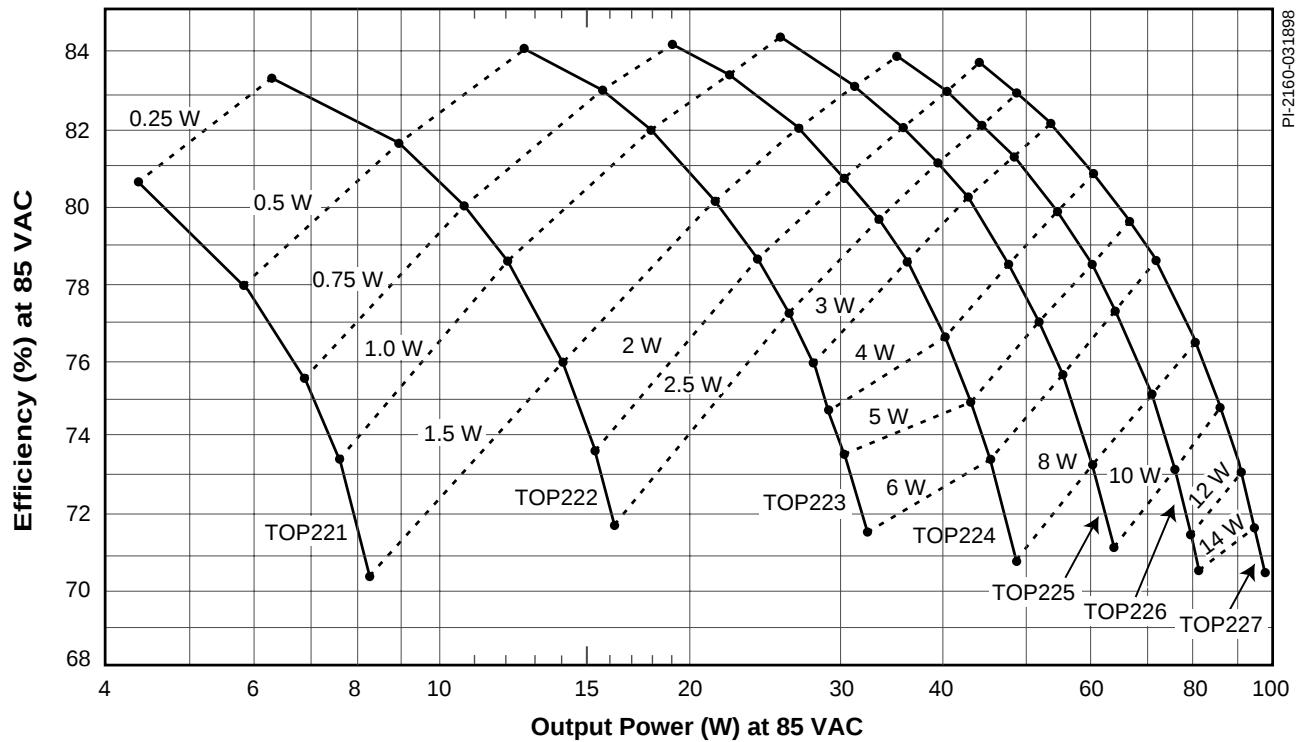
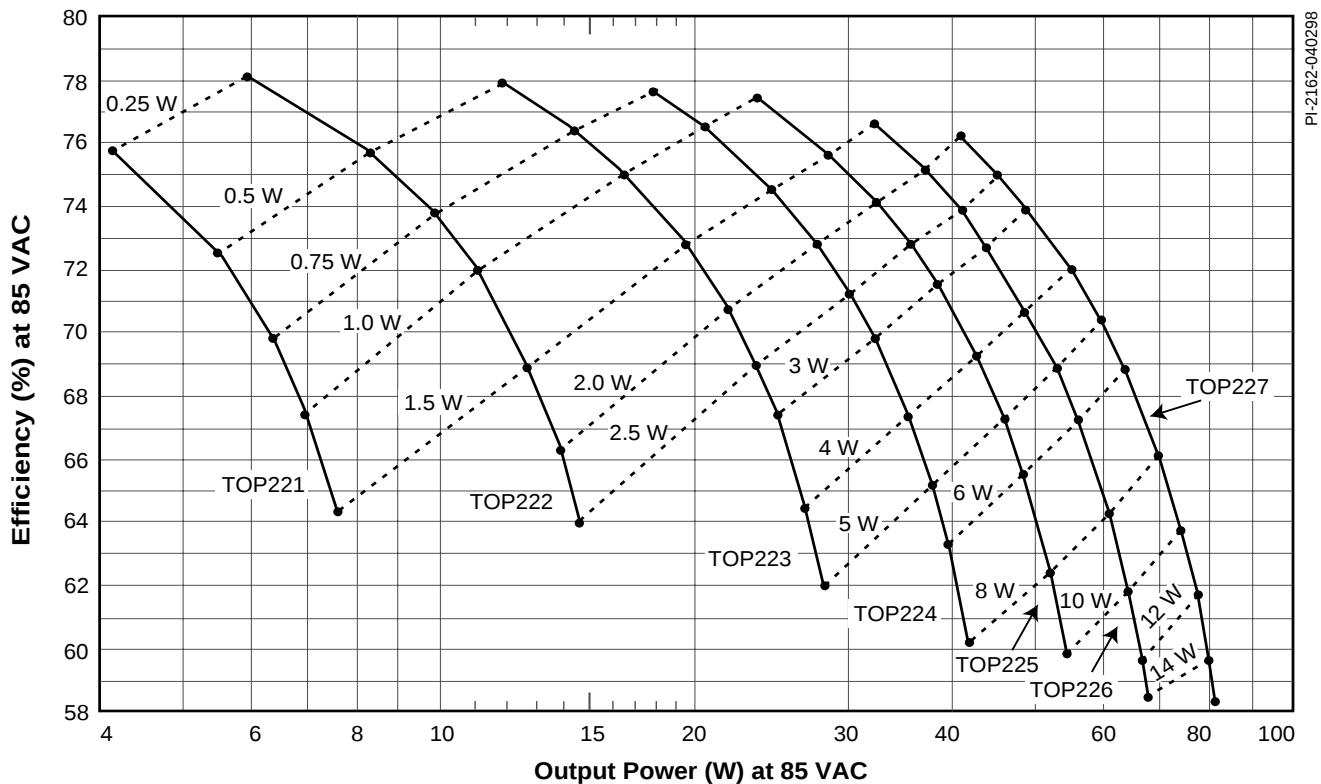

Figure 2. Typical Efficiency vs Output Power with Contours of Constant TOPSwitch-II Power Loss for Universal Input and 12 V Output.
Figure 3. Typical Efficiency vs Output Power with Contours of Constant TOPSwitch-II Power Loss for Universal Input and 5 V Output.
The *TOPSwitch-II* Flyback Quick Selection Curves consider these dissipation terms (and others as well) to provide a good estimate of expected efficiency for both Universal input and 230 VAC mains applications. Figure 2 (for +12 V outputs) and Figure 3 (for +5 V outputs) show a set of curves for efficiency and *TOPSwitch-II* power dissipation versus output power for the entire family of TOP221-TOP227 devices. These curves assume operation from a low line AC input voltage of 85 VAC, which is a suitable value for all Universal input applications.
- 1) Determine which graph (Fig. 2, 3, 4 or 5) is closest to your application.
Example: Use Figure 2 for Universal input, 12 V output.
Using Figures 2, 3, 4 and 5
Assume a +5 V application requires 30 W of output power from Universal input voltage. From the curves in Figure 3, the TOP224 can deliver 30 W with an estimated Y-axis efficiency of 71%. The projected *TOPSwitch-II* power dissipation is approximately 2.5W. The TOP225 can also be used with an expected efficiency of 75% and interpolated power dissipation of approximately 1.7 W. With these curves, a heat sink can be selected or evaluated immediately because an estimate for *TOPSwitch-II* power dissipation is now available before the design is even started!
The minimum AC input voltage has a strong influence on the choice of *TOPSwitch-II* device for a given output power. If the minimum voltage is increased above the values assumed for the curves in Figures 2 through 5, then more power will be available from each *TOPSwitch-II* device.
We can use the Output Power Ratio Curves in Figures 6 and 7 together with the original curves of Figures 2 through 5 to determine the available power for different input voltages.
This effective output power is then used with the curves in Figure 2 to select the TOPSwitch-II device and to estimate the TOPSwitch-II dissipation. Predictions of efficiency and power dissipation may be less accurate when the ratio is used. The new value of primary inductance is the product of the power ratio and original inductance value in Table 3. The new inductance value for the TOP224 would be:
The value of capacitor C1 also determines the average value of the DC bus voltage. The Universal VAC Mains curves in Figures 2 and 3 were generated with an average DC bus value of 105 VDC while the 230 VAC Mains curves in Figures 4 and 5 were generated with an average DC bus value of 265VDC.